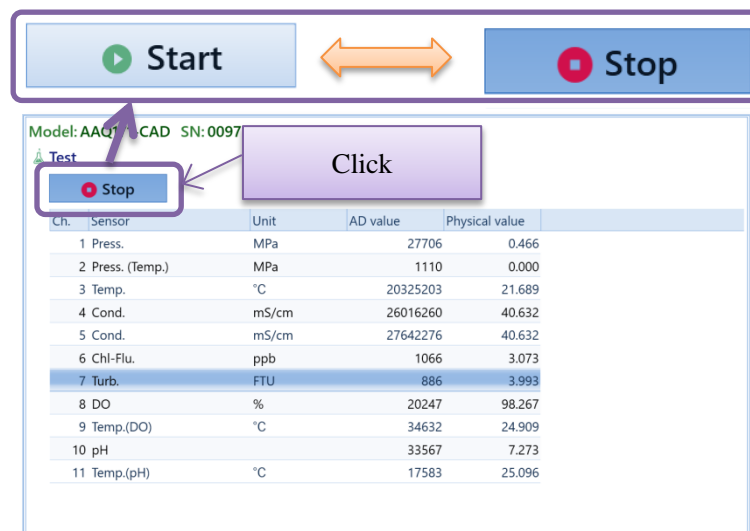

Figure 6.48 Example of communication test (AAQ-RINKO)
- (4) Start communication with the instrument by clicking on [Start] button to confirm each sensor’s AD values and physical values every 1 second. (Figure 6.48)